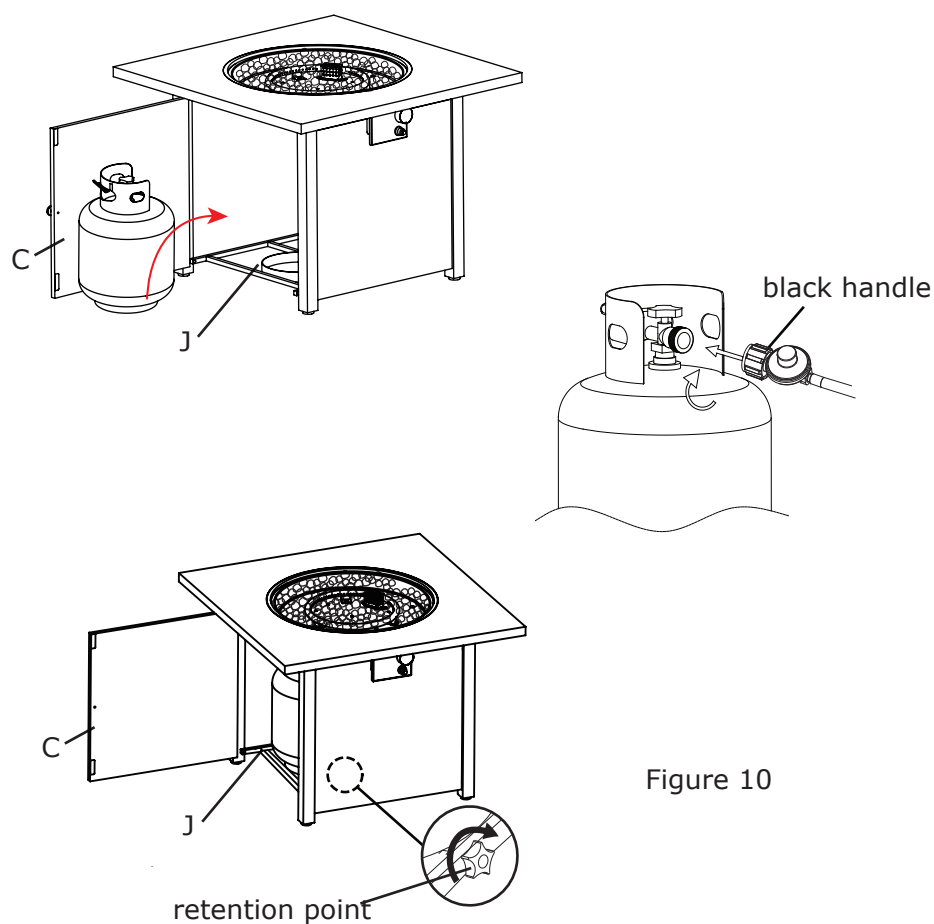

Figure 10
10. Open the door panel (C). Place the gas cylinder into the gas cylinder support (J) and connect the regulator by turning the black handle clockwise to tighten. To remove the regulator, turn the black handle counter-clockwise.
Secure the gas cylinder by tightening clockwise the retention point found on gas cylinder support (J), (see Figure 10), so that the gas cylinder cannot move from side to side or fall down. The knob on the control panel is turned all the way to the "OFF" position when the fire pit is in NOT in use.